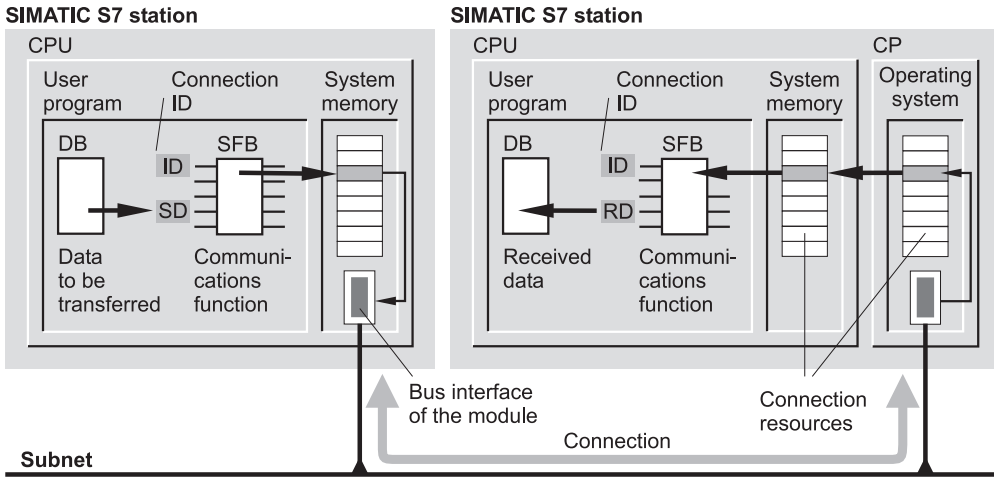

Figure 1.8 Data Exchange Between Two SIMATIC S7 Stations
Figure 1.8 uses the example of an S7 connection to show the objects involved in communication between two stations. In the user program of the left station, the data to be transmitted are present in a data block (DB). In the example, the communications function is a system function block (SFB). You assign a pointer to the RD parameter for the data to be transmitted, and trigger the transmission from the program. The communications function is additionally assigned a connection ID with which the used connection is specified. The connection occupies one connection resource in the CPU's system memory. The data are sent via the module's bus interface, e.g. to a CP module in another station. Connection resources are occupied in both the CP module and the CPU. As a result of the connection ID (and the configured connection path), the communications function "recognizes" the data addressed to it in the receiver station, and writes these by means of the pointer in the RD parameter to the data block of the user program.